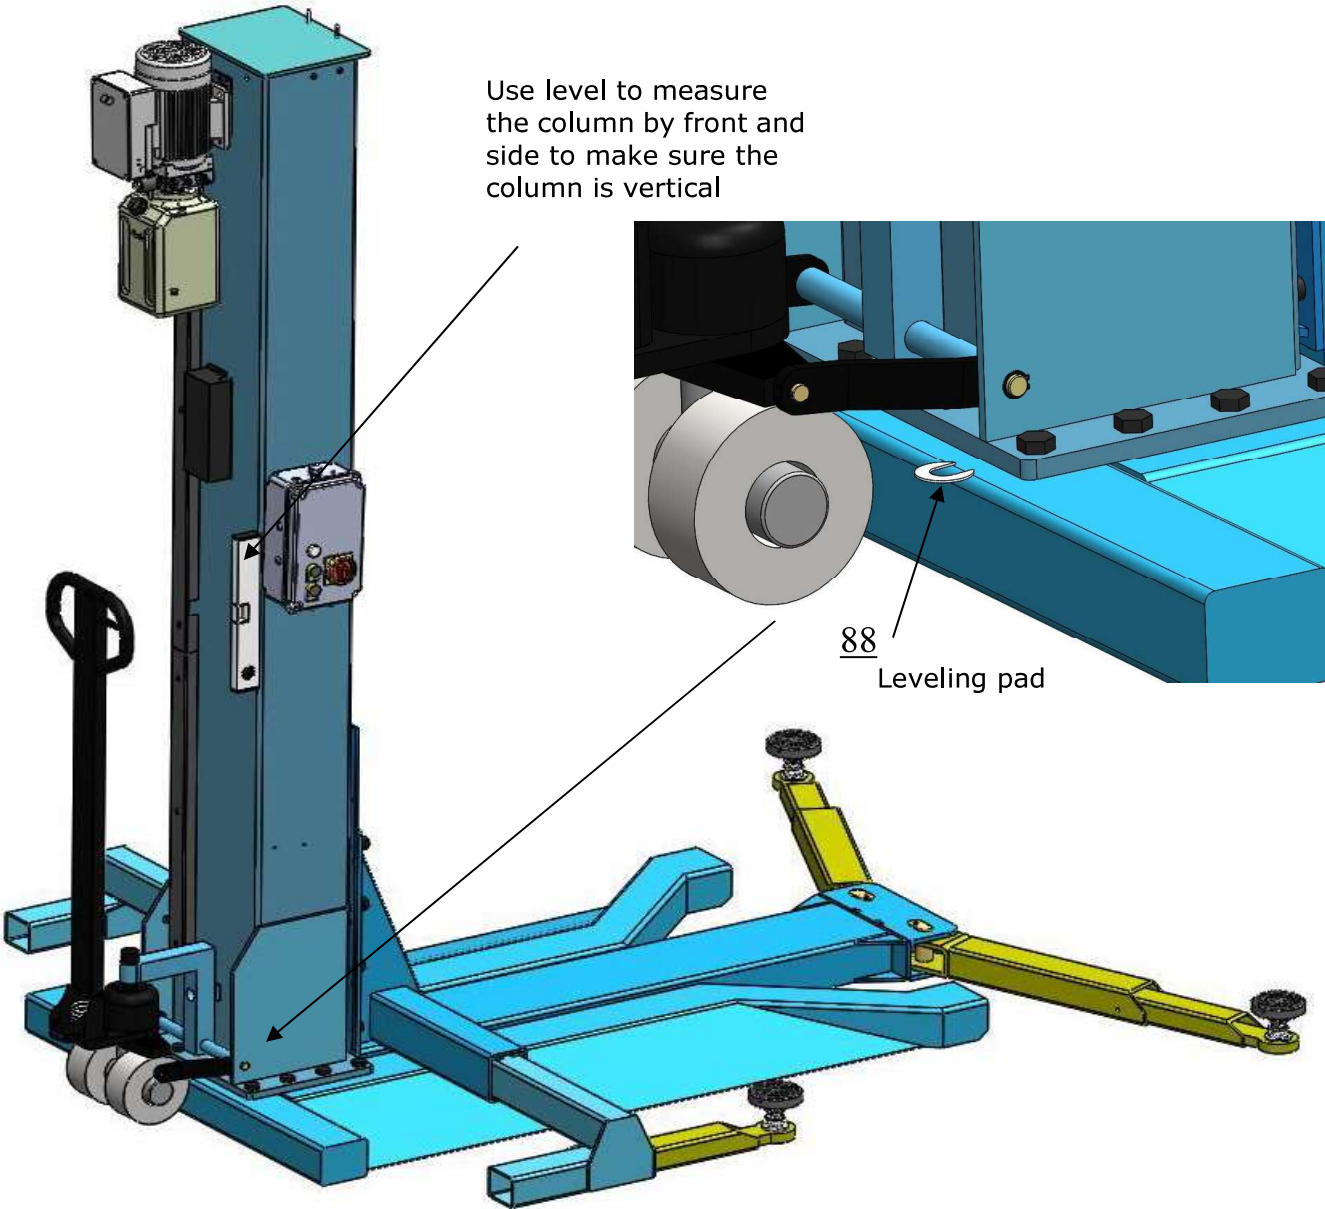

Fig.29
N. Using level to measure and adjust the column to be vertical. (see Fig.29)